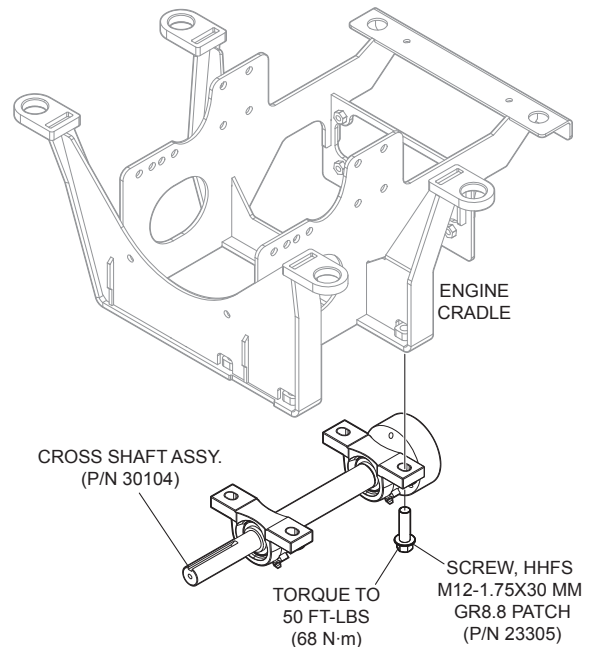

Figure 11. Cross Shaft Installation
4. Use a 16mm socket to install **new** cross shaft assembly (P/N 30104) onto engine cradle with 4 existing screws. Apply Blue Loctite (P/N 1477). See Figure 11.
1. Remount cross shaft (with lower pulley assembly) onto engine cradle. Refer to "Cross Shaft Mounting" section and Figure 11.